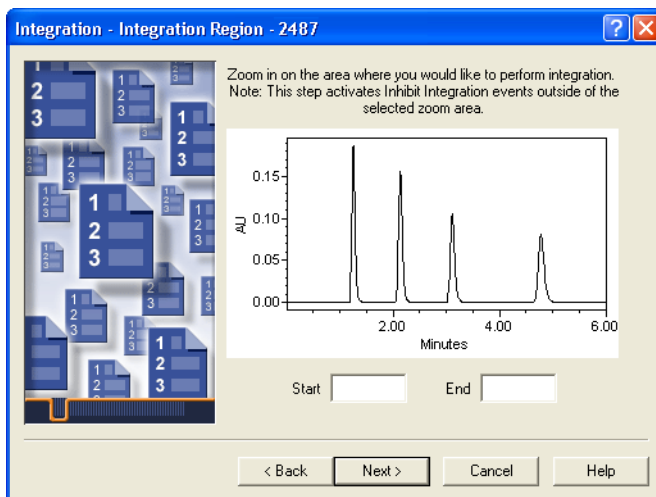

Figure 4-22 Processing Method Wizard, Integration–Integration Region, Full View
9. Click **Next**. The Integration–Integration Region page appears (Figure 4-22). This page allows you to define the area where you want to perform integration.
Follow the wizard instructions and use the mouse to draw a zoom box that encloses the area of the chromatogram that you want to integrate. An Inhibit Integration event (Figure 4-22) will automatically be placed in the time region(s) outside of the zoom area. Integration will not take place outside of the zoom box.